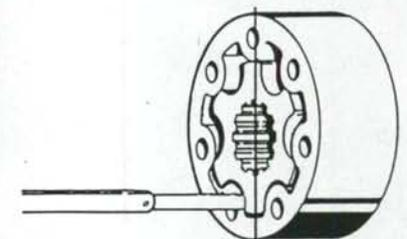
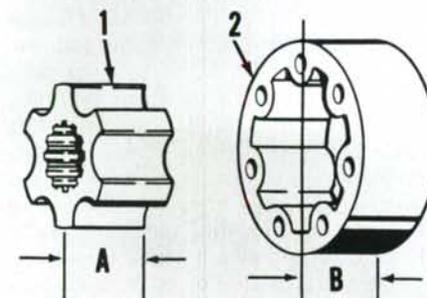

Fig. 55—Measure gap between rotor and stator with rotor and stator aligned as shown. If gap exceeds 0.13 mm (0.005 inch), renew steering valve.
Fig. 54—Measure thickness of rotor (1) and stator (2). Renew steering valve assembly if thickness (A) is 0.05 mm (0.002 inch) less than stator thickness (B).
Clean all parts and inspect for excessive wear, scoring or other damage. Renew complete valve assembly if stator and rotor, sleeve and spool or bore in valve body are damaged. Measure thickness of rotor (1—Fig. 54) and stator (2). Renew complete valve if rotor thickness (A) is 0.05 mm (0.002 inch) less than stator thickness (B). Measure gap between rotor and stator as shown in Fig. 55. Renew steering valve if gap exceeds 0.13 mm (0.005 inch).